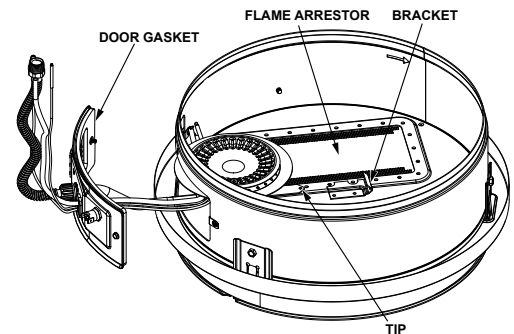

FIGURE 39.
3. Insert the manifold/burner assembly into the burner compartment, making sure that the tip of the manifold tube engages in the slot of the bracket inside the combustion chamber (Figures 39 & 40).